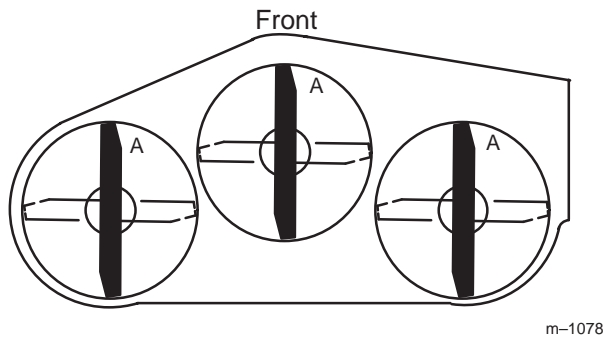
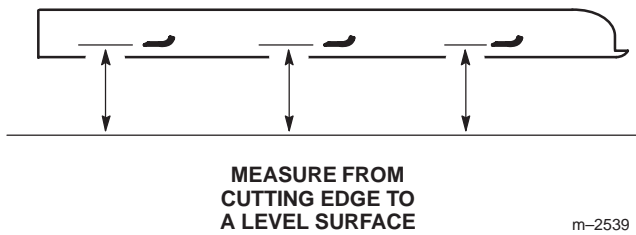

Figure 33
Figure 34
1. Rotate the blades until the ends face forward and backward (Fig. 33). Measure from a level surface to the cutting edge, position A, of the blades (Fig. 34). Note this dimension.